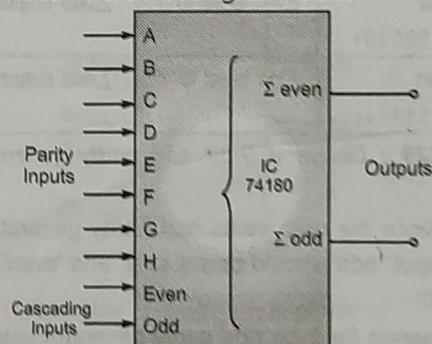

Fig. 2.58
- IC 74180 is a popular nine input parity generator/checker. It can be used as a parity generator or checker. Its block representation is shown in Fig. 2.58 below :